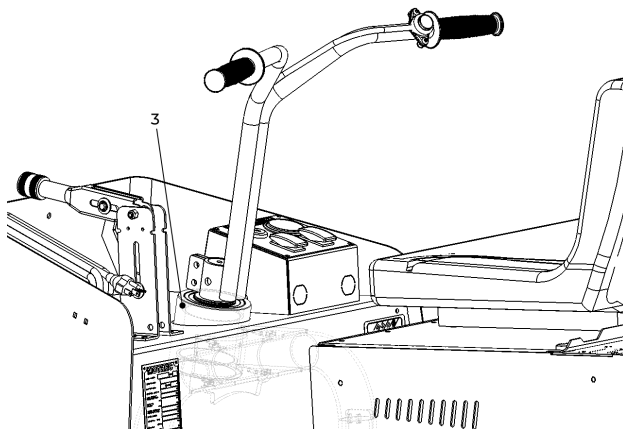

Figure 31. Steering Cylinder.
- Steering column (see Figure 31).